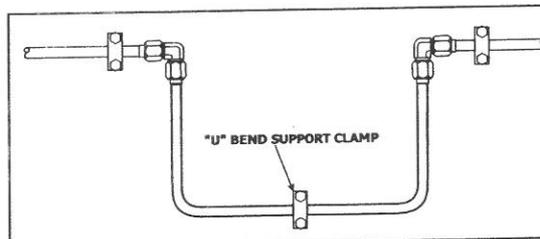

Fig. 16 - U-Bend Allowing Expansion and Contraction
- **Allow for expansion and contraction** - Use a "U" bend or a hose in long lines to allow for expansion and contraction. (See Figure 16.)